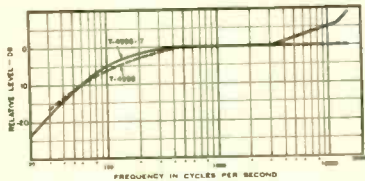

Fig. 3
T-4996 (A) Glide-tone record, covering the frequency range from 14,000 to 3000 cps, with a break at every 1000-cps point. Levels are shown on Fig. 3, and are in accordance with recording curve employed on Decca "Hrr" records.
T-4996 (B) Reverse of above. Glide tone record, ranging from 3000 to 10 cps, with breaks at 2000, 1000, 400, 250, and 100, cps. Levels are as shown on Fig. 3.
and 50 cps. Level is constant from 14,000 to 400 cps, with levels below 400 cps same as on T-4996. (Fig. 3).
T-4998 (B) Reverse of above. Frequency bands of 4000, 3000, 2000, 1000, 400, 250, 100, 55, and 30 cps, with levels as shown by the dotted curve of Fig. 3.